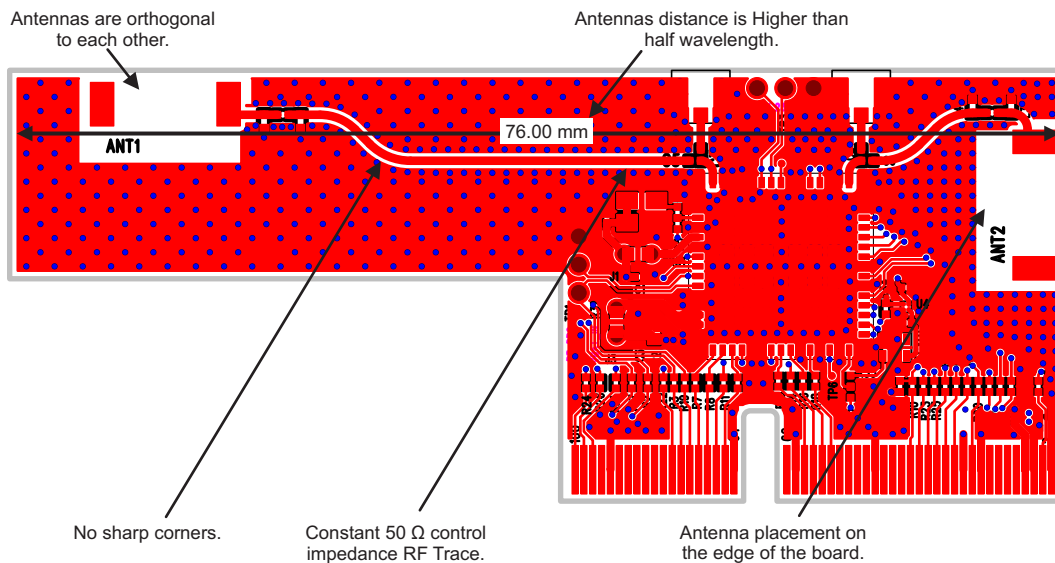

Figure 7-2. Location of Antenna and RF Trace Routing on the WL1837MODCOM8I Board
Figure 7-2 shows the location of the antenna on the WL1837MODCOM8I board as well as the RF trace routing from the (X)WL1837 module (TI reference design). The Pulse multilayer antennas are mounted on the board with a specific layout and matching circuit for the radiation test conducted in FCC, CE, and IC certifications.